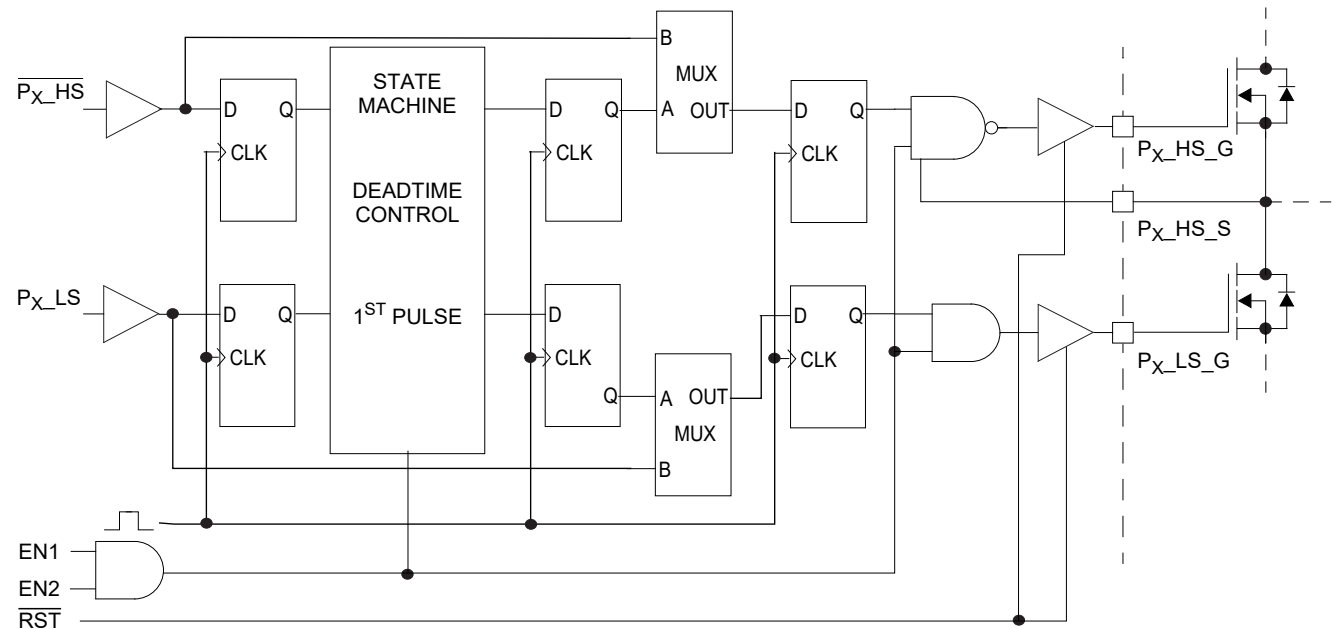

Figure 6. Deadtime control delays
43. These delays include all logic delays except deadtime. All internal logic is synchronous with the internal clock. The total delay includes one clock period for state machine decision block, an additional clock period for fullon mux logic, input synchronization time and output driver propagation delay. Subtract one clock period for operation in fullon mode which bypasses the state machine decision block. Synchronization time accounts for up to one clock period of variation. See Figure 6.